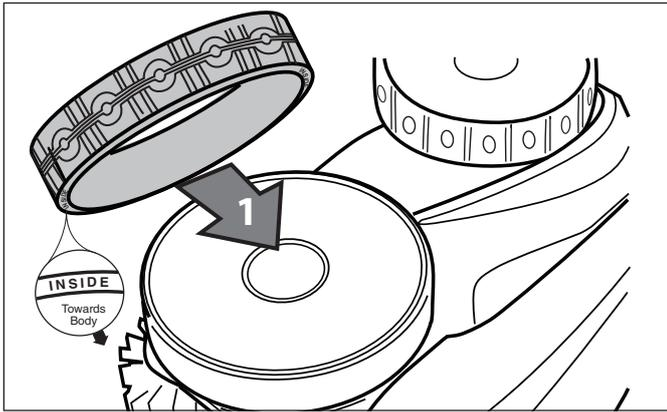

Figure 37. Tyre Replacement Orientation
3. To replace the tyre, position the tyre on the wheel making sure to orient the tyre so that the word **INSIDE** is toward the body of the cleaner (Figure 37).